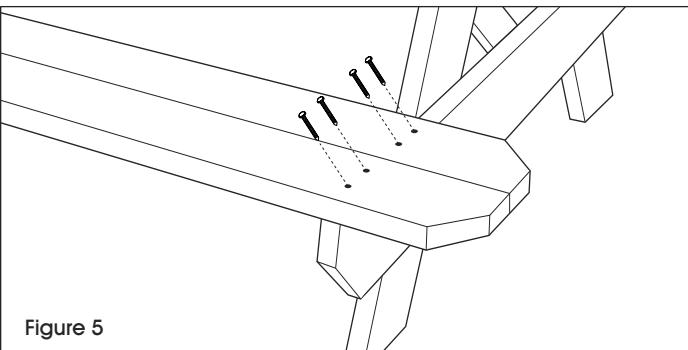

Figure 5
11. Place the outside edge of the seat bench flush with the ends of the seat braces and align the ends of the bench with the edge of the table top. Use a 1/8" drill bit to pre-drill holes. Attach the seat bench to the braces using eight 2½" wood screws per bench seat. Repeat for opposite seat bench. (See Figure 5)